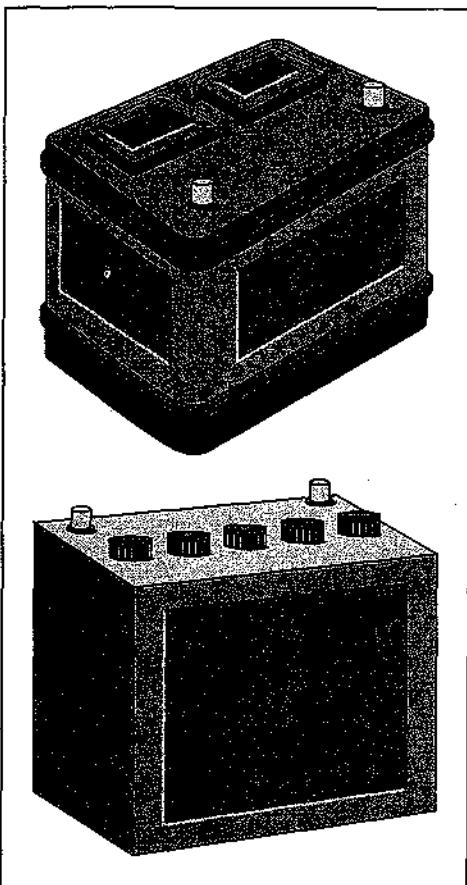

Figure 3-5:
1. If you have a battery with removable caps or bars on top, remove them. (See Figure 3-5.)